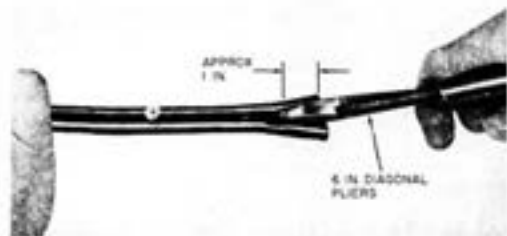

Fig. 13—Cutting Web With Diagonal Pliers
6.01 Prepare F multiple drop wire for termination in accordance with Fig. 13 through 16.